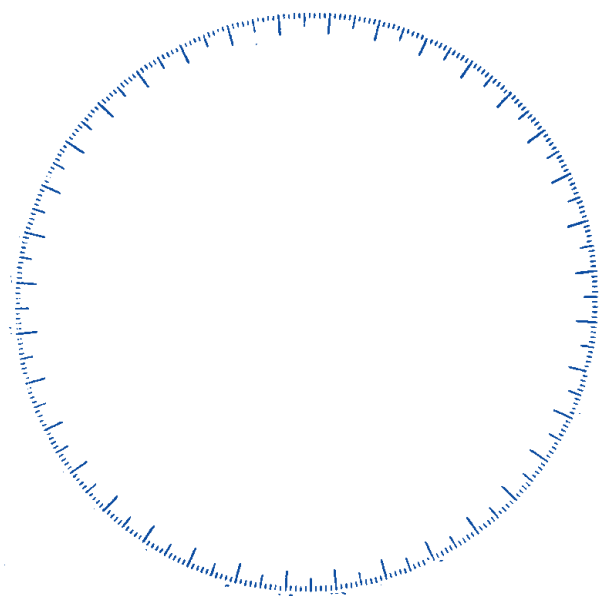

Figure 89.1 Template for compass rose
1. Using the circle in Figure 89.1 as a guide, make a compass rose with your protractor.